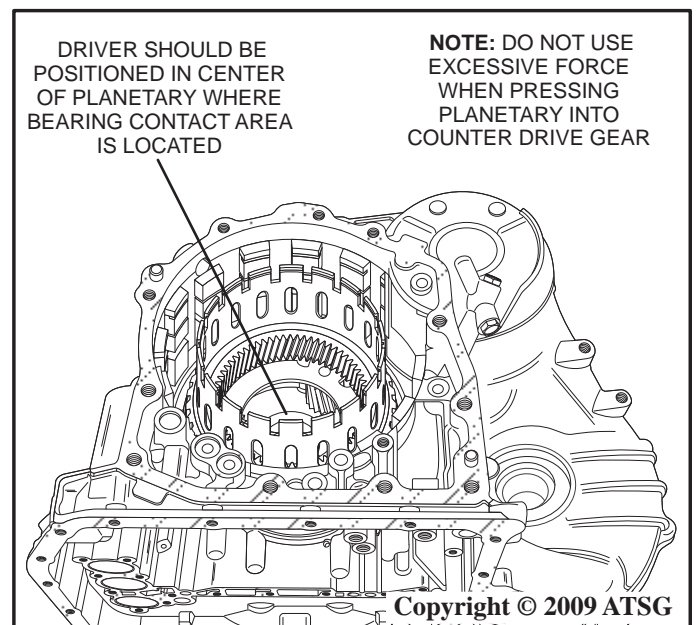

Figure 152
13. Using SST 09950-60010 (09951-00400) or other suitable tool and a press, align the splines of the front planet and the counter drive gear and press the front planet into the counter drive gear, or set the case into a suitable tool, and while supporting the counter drive gear, press the front planetary splines into the counter drive gear using a suitable driver as shown in Figure 152.